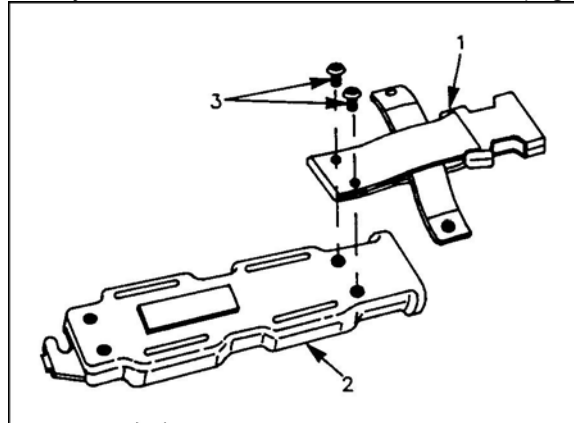

Figure 4. M9 scabbard reassembly.
- a. Position attaching assembly scabbard end (1) on scabbard body assembly (2) so that fastener will close around M9 bayonet. Install two socket head screws (Figure 4).